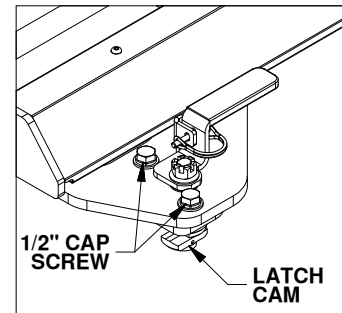

Figure B4: View of base foot
2. Each leg of the Companion base has an adjustable pilot assembly which is attached to the foot with two 1/2" cap screws, as shown in figure B4. To adjust the pilot assemblies that do not fit into the attachment points, loosen both the 1/2" cap screws so the pilot assembly can move freely, see figure B4. Set the base over the attachment points and adjust the pilot assemblies until the pilot keys pass through the slot in the attachment points and the pilot shoulders rest flat against the top of the attachment points. When all the pilot assemblies are aligned and inside the attachment points, push the base towards the cab and use a tape measure to verify that the base is approximately square with the truck bed. Tighten any loose cap screws to 80 ft-lbs.